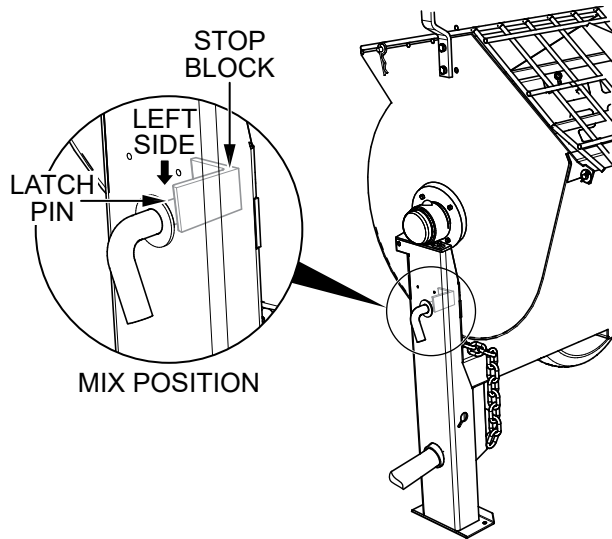

Figure 25. Drum Latch Pin (Mix Position)
1. Pull the drum latch pin (Figure 25) and place it on the **left side** (mix position) of the stop block.